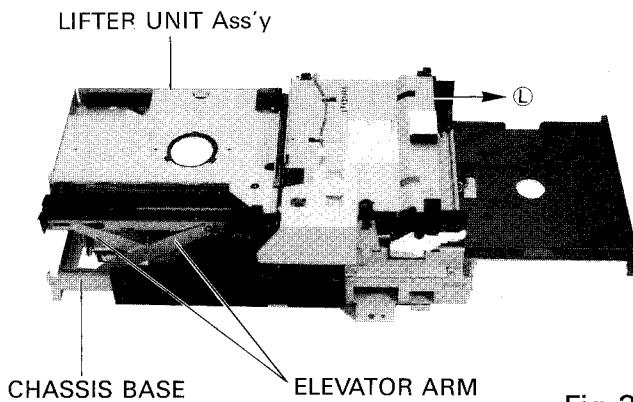

Fig.3
6. Removing the magazine holder (Fig.3)
7. Removing the LIFTER UNIT Ass'y (Fig.3)